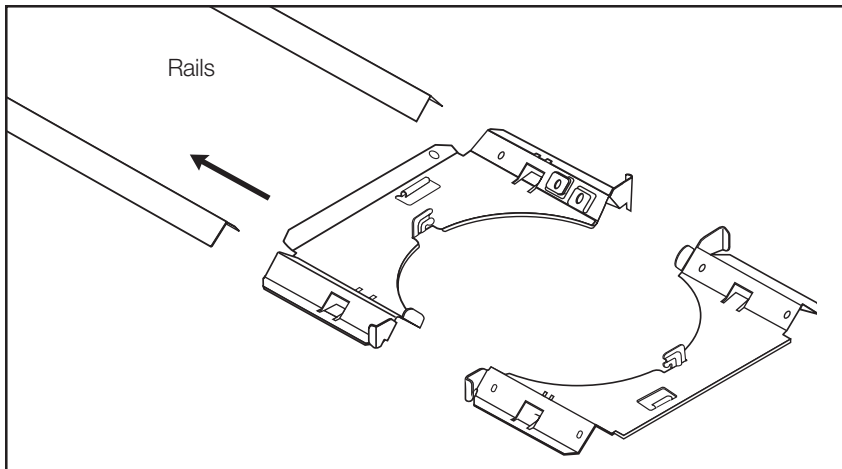

Figure 11
1. For both FreeSpace® 6 Model 8 and Model 32 loudspeakers, remove the rails from the ceiling pans (Figure 11). The ceiling pan will not fit through the mounting hole with the rails installed.